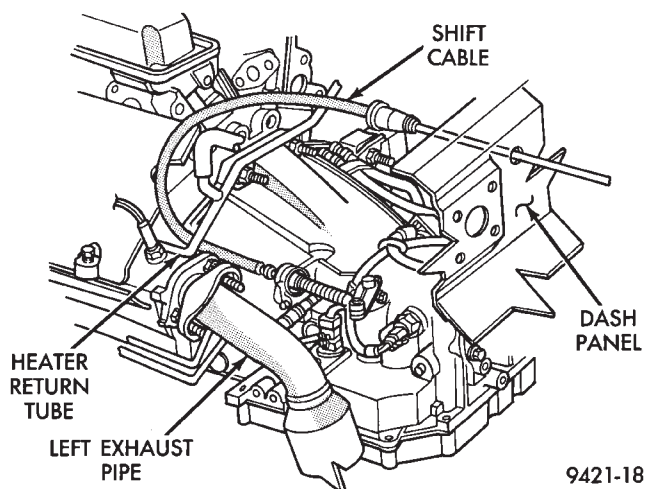

Fig. 22 Shift Cable Routing
(1) Route new cable from underside of vehicle. The cable must be routed between the engine block and the heater return tube (Fig. 22).
(2) Snap new transaxle cable on to transaxle shift lever assembly.